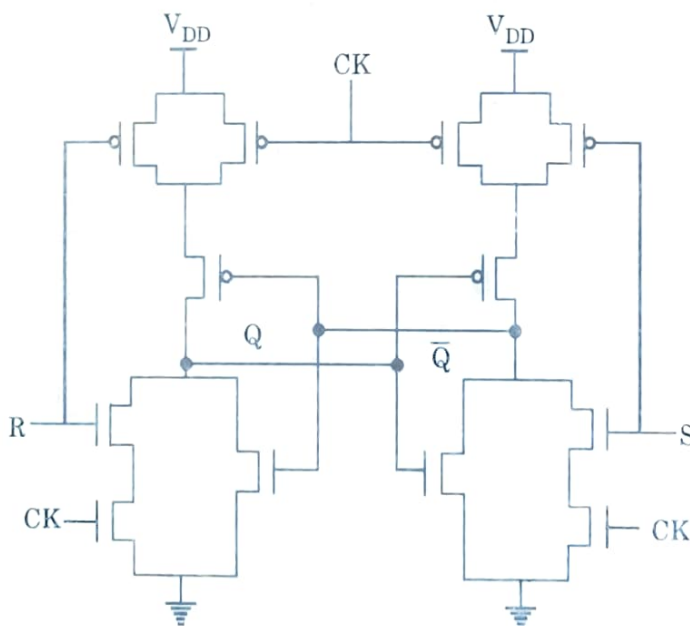

Fig. 3.18.2.
3. CMOS AOI implementation of clocked NOR based SR latch is shown in Fig. 3.18.2.